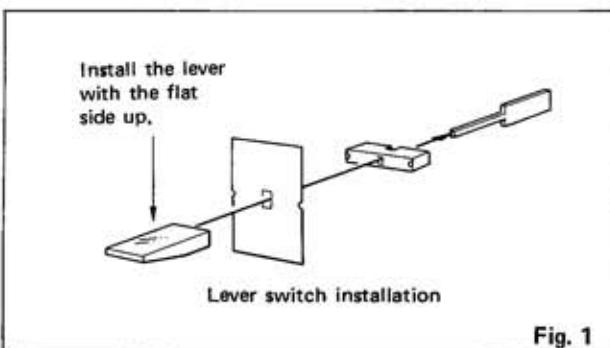

Fig. 1
- d. Be careful not to install switches and knobs in the wrong place or upside-down. See Fig. 1.